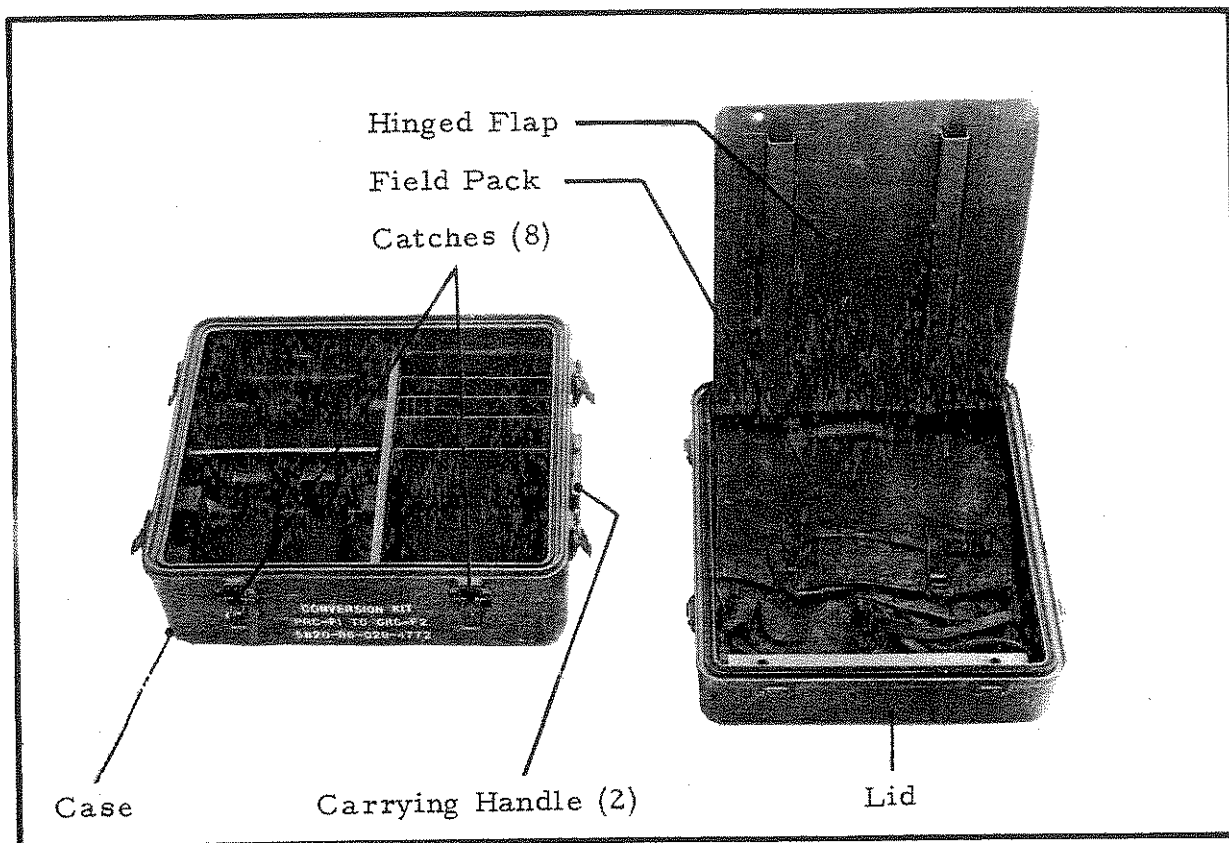

FIG 20
39. Case Assembly, Transit, CY-F2. (Fig 20). This metal case has an airtight lid secured by eight spring catches and is fitted with two carrying handles. A stowage compartment in the lid is covered by a hinged flap which is secured by two quarter turn fasteners. The case is partitioned to provide storage for all components of the conversion kit with the exception of the field pack which is stowed in the compartment in the lid.
40. Field Pack, Canvas, Olive Drab. (Fig 20). This is a compartmented canvas pack designed to stow all components of the conversion kit for man carriage.